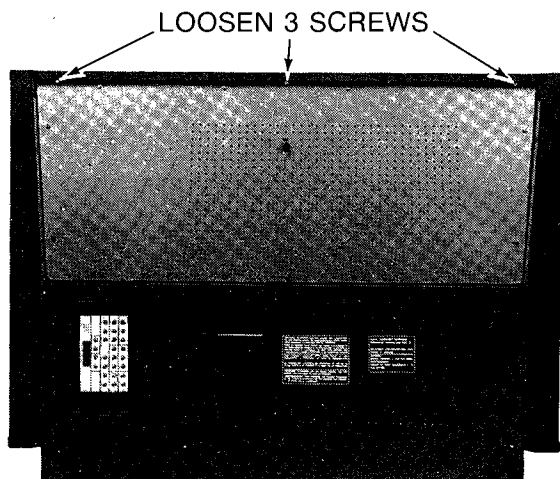
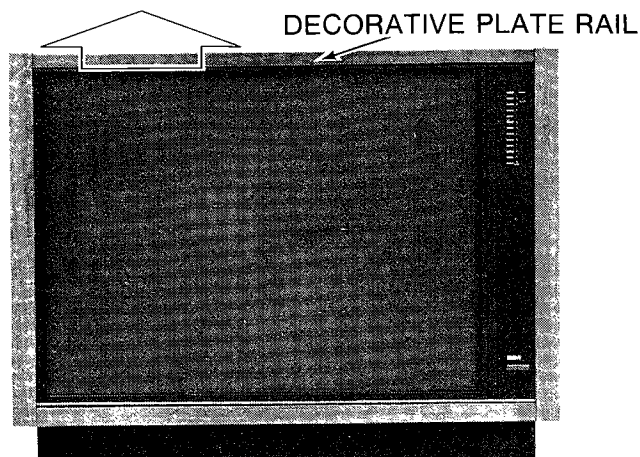

Fig. 12a — Screen Removal
Fig. 12b — Decorative Rail Removal
1. Loosen three (3) screws at top rear of cabinet (Fig. 12a) to release decorative rail (Fig. 12b) top front of cabinet.